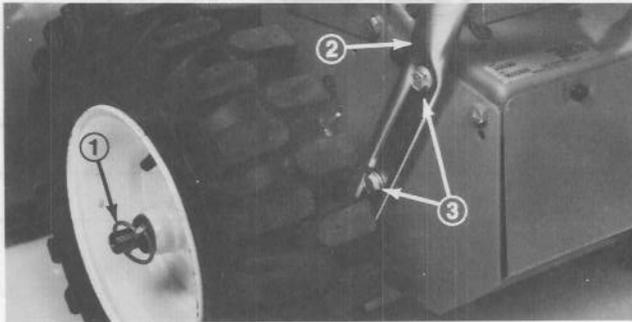

Figure 1
3. Position handles against outside of traction unit side plates and secure handles in place with four hex flange screws (Fig. 1).
Note: The wheel retainer pin can be removed and the wheel moved out on the axle to achieve more clearance (Fig. 1).